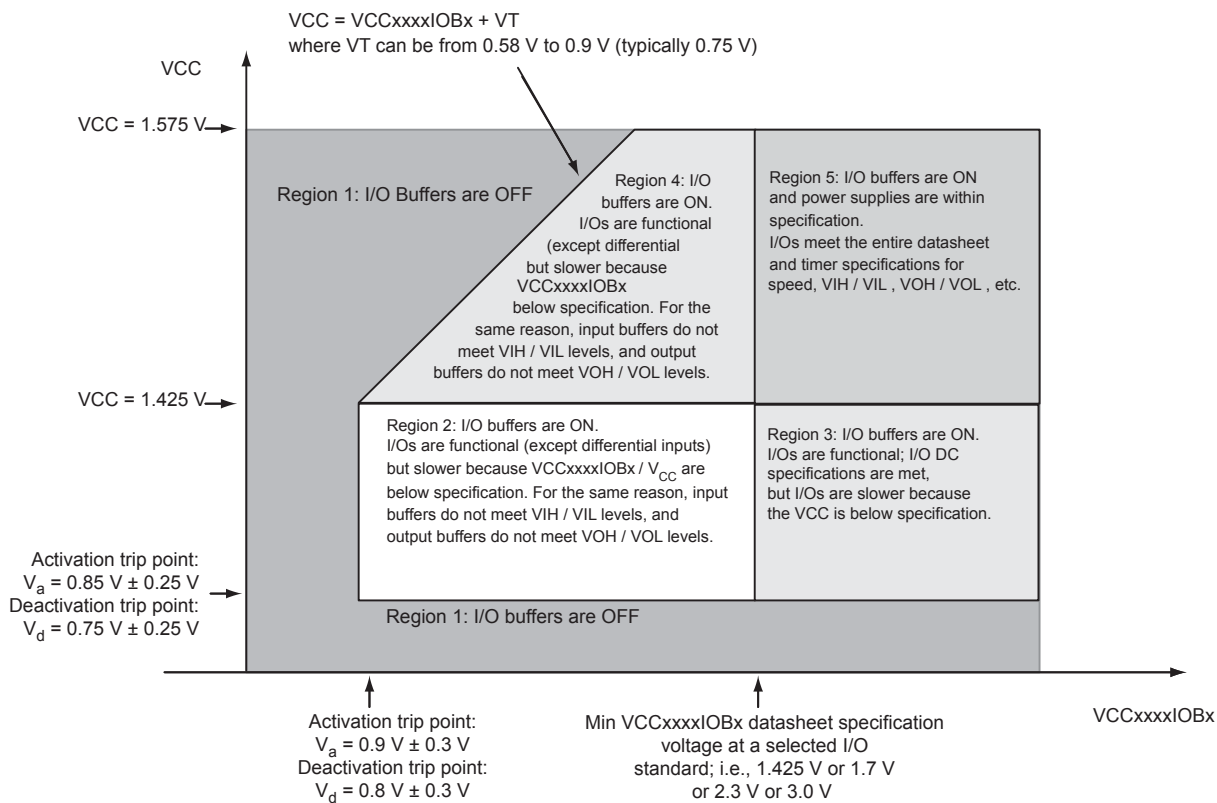

Figure 2-1 • I/O State as a Function of VCCxxxxIOBx and VCC Voltage Levels
Sophisticated power-up management circuitry is designed into every SmartFusion[®] device. These circuits ensure easy transition from the powered-off state to the powered-up state of the device. The many different supplies can power up in any sequence with minimized current spikes or surges. In addition, the I/O will be in a known state through the power-up sequence. The basic principle is shown in Figure 2-1 on page 2-6.
1. VCC and VCCxxxIOBx are above the minimum specified trip points (Figure 2-1 on page 2-6).
The Microsemi SoC Products Group recommends using monotonic power supplies or voltage regulators to ensure proper power-up behavior. Power ramp-up should be monotonic at least until VCC and VCCPLLx exceed brownout activation levels. The VCC activation level is specified as 1.1 V worst-case (see Figure 2-1 on page 2-6 for more details).